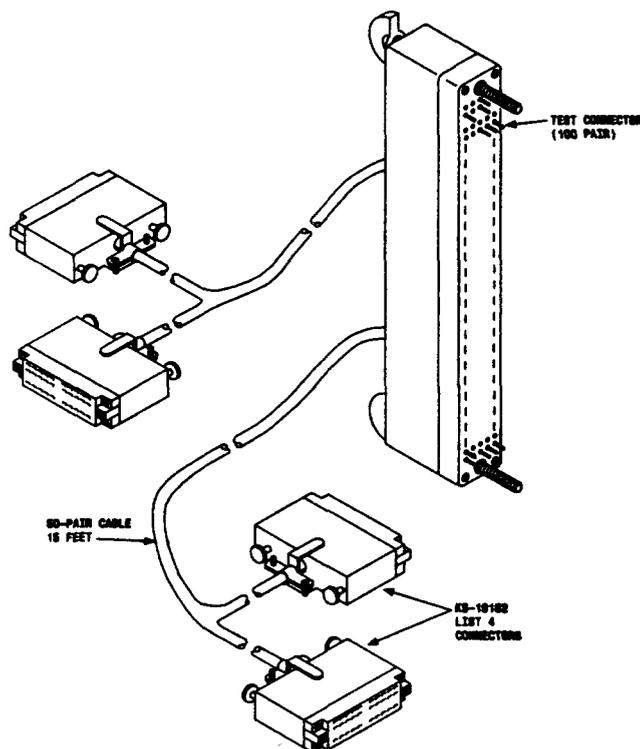

Figure 1—T Test Connector (AT-8987)—For 310-, 310M-, or 311-Type Connectors
2.02 The T test connector (Figure 1) is used to connect the 100-pair test terminal field of the 310-, 310M-, or 311-type connector to automatic pair identification equipment. The test connector contains 200 (100 pairs) spring-loaded contacts that are internally connected to two 50-pair, 15-foot long cables. Each cable terminates on two 25-pair KS-19162, L4 (or equivalent) connectors for attachment to automatic pair identification equipment. The four connectors are numbered 1-25, 26-50, 51-75, and 76-100 to identify the respective cable pair count. A separate pick test panel is furnished with the T test connector for single or pair-at-a-time testing. The test connector is also furnished with an F (AT-8854) carrying case.